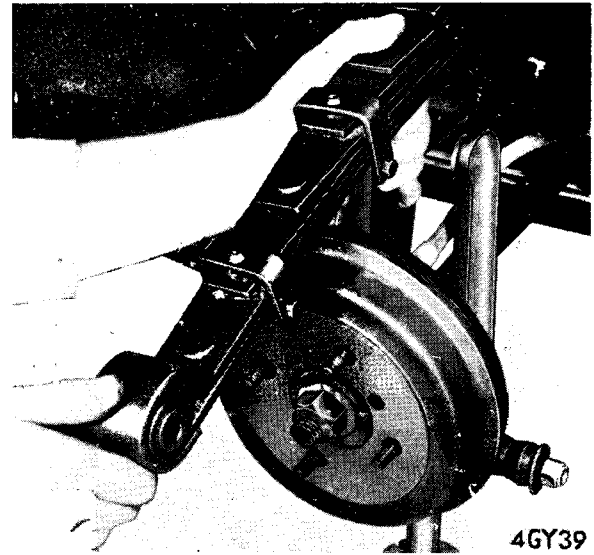

Fig. 27. Removing road spring
8. Withdraw the road spring from the vehicle (Fig. 27).